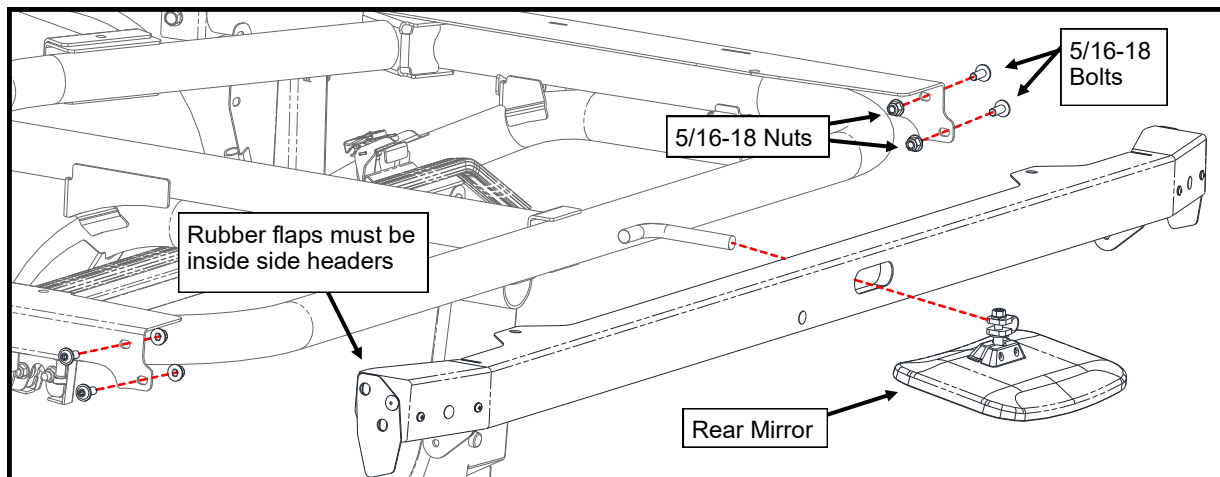

Figure 8.5: Rear Header
- 8.5 Loosen the bolt in the mirror mount on the ROPS and remove the rear mirror (see Figure 8.5).